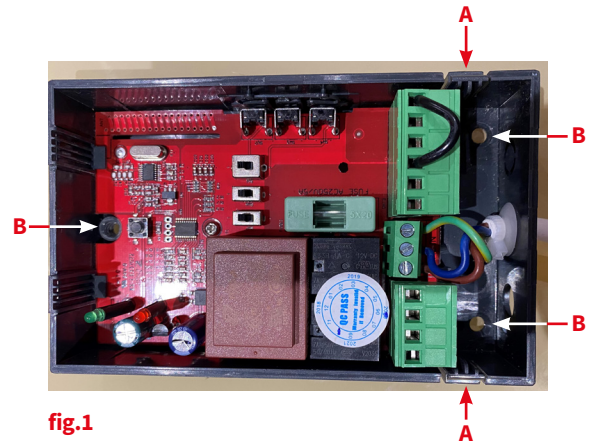

fig.1
- 1 Press and release the black programming button located at the top middle of the receiver box just below the fixing screw, the green LED will start to flash (**fig.1**).